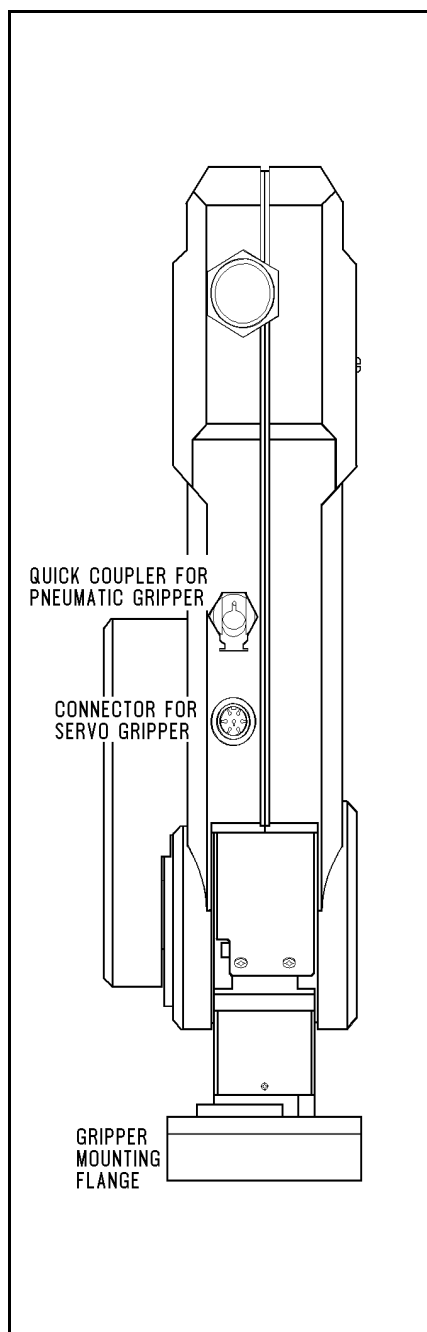

Figure 4-7:
2. Connect the coiled double hose from the gripper to the quick coupling on the robot's forearm, as indicated in Figure 4-7.